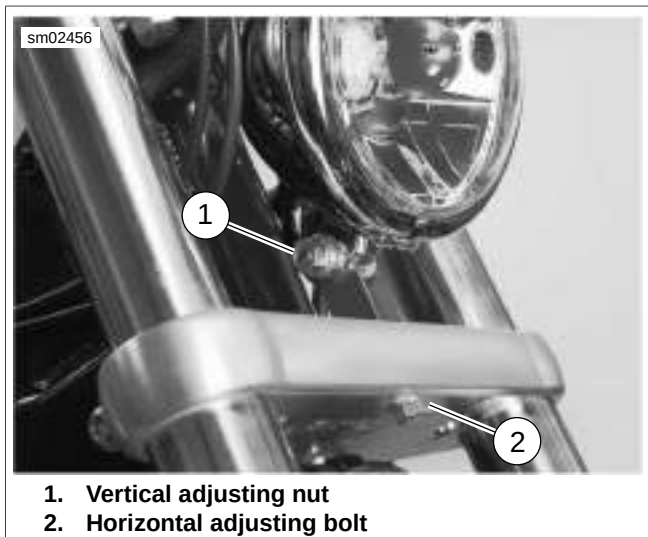
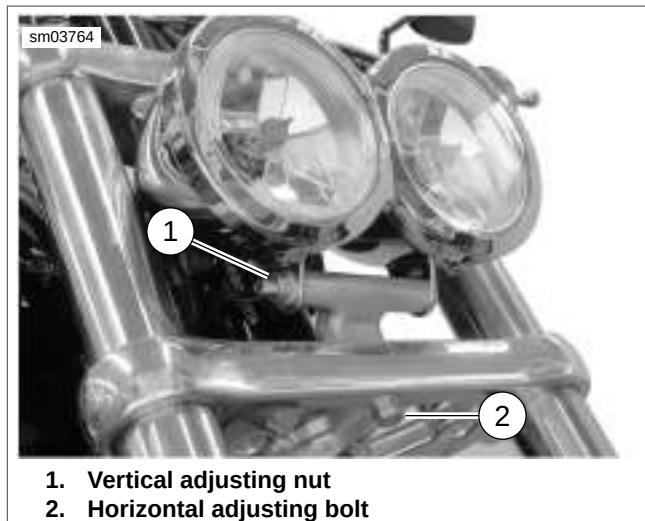

Figure 1-47. Headlamp Adjustments: Single Bulb
Figure 1-48. Headlamp Adjustments: Dual Bulb
1. See Figure 1-47 or Figure 1-48. Loosen horizontal adjusting bolt (2) to adjust headlamp beam side to side. Tighten bolt to 25-30 ft-lbs (33.9-40.7 Nm).
2. Loosen nut on vertical adjusting nut (1) to adjust headlamp beam up or down. Tighten nut to 25-30 ft-lbs (33.9-40.7 Nm).